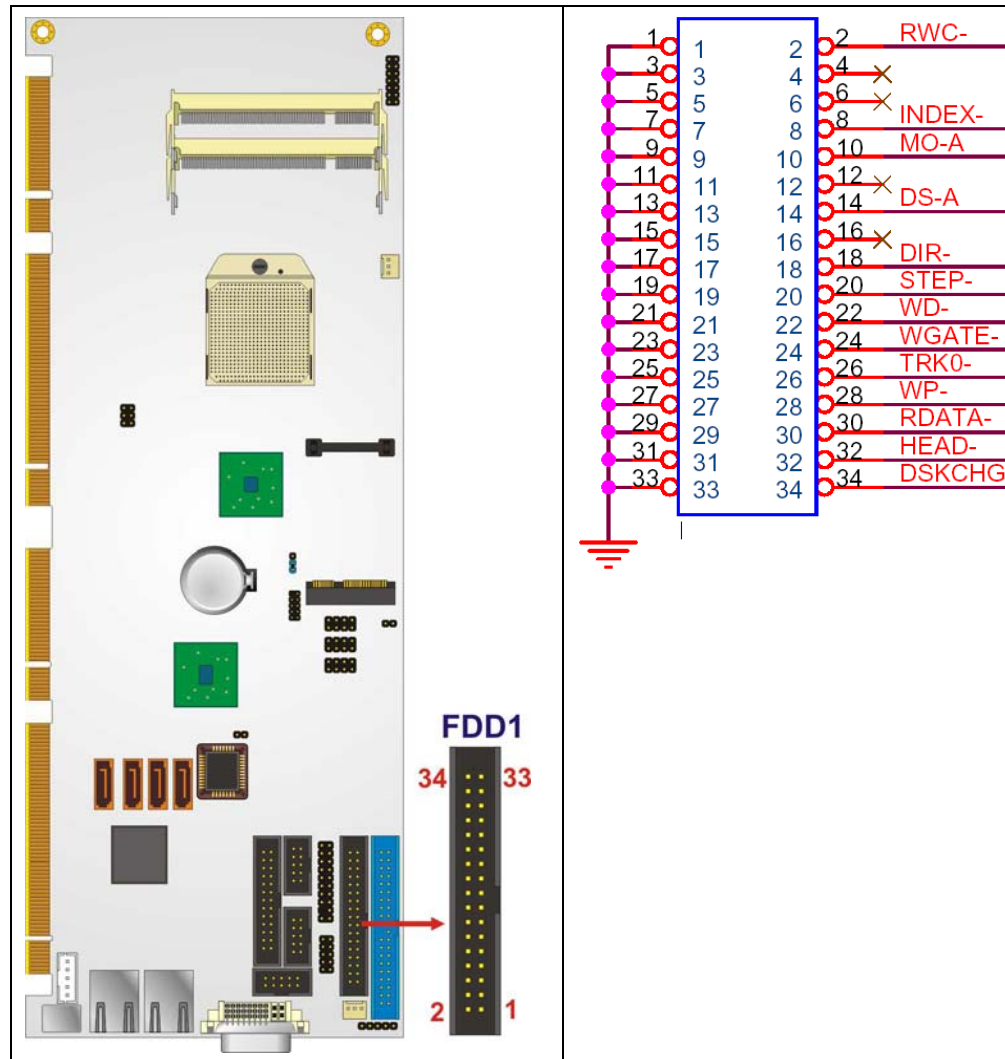

Figure 4-5: 34-pin FDD Connector Location
- CN Location:** See Figure 4-5